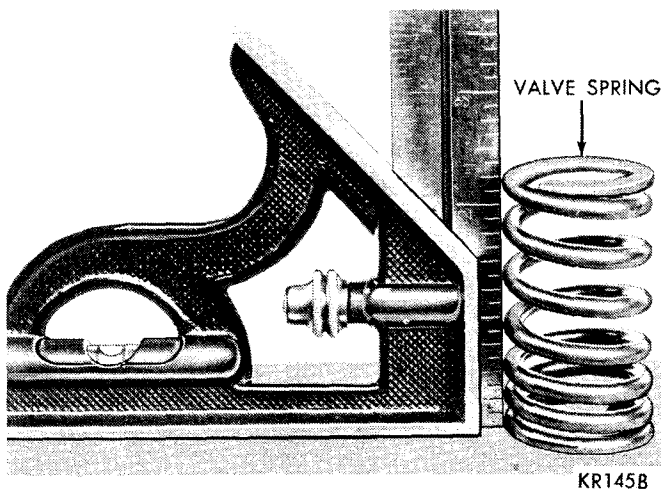

Fig. 13—Inspecting Valve Spring Squareness
(1) Whenever valves are removed for inspection, reconditioning or replacement, the valve springs should be tested. As an example, the compressed length of the spring to be tested is $1-15/32$ inches. Turn the table of Tool C-647 until the surface is in line with the $1-15/32$ inch mark on the threaded stud and the zero mark to the front. Place the spring over the stud on the table and lift the compressing lever to set the tone device. Pull on the torque wrench until a ping is heard. Take the reading on torque wrench at this instant. Multiply this reading by two. This will give the spring load at the test length. Fractional measurements are indicated on the table for finer adjustments. Refer to specifications to obtain specified height and allowable tension. Discard the springs that do not meet specifications.
(2) Inspect each valve spring for squareness at both ends with a steel square and surface plate (Fig. 13).
(3) If the spring is more than $1/16$ inch out of square, install a new spring.